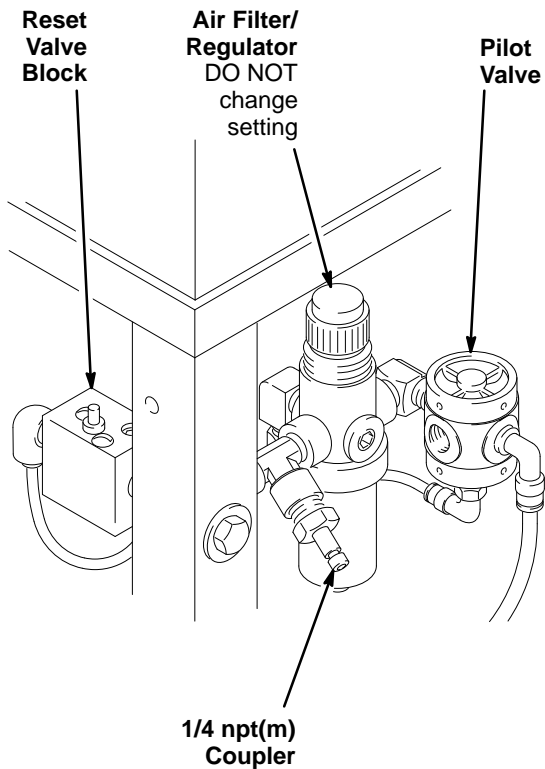

Fig 4
3. Install into the air inlet adapter a 1/4 in. npt male coupler that is compatible with the quick disconnect of your air supply line. See Fig 4.
Models 110–485, 110–486, and 110–487 include an air filter/regulator that has been preset at the factory; do not readjust it. See Fig 4.